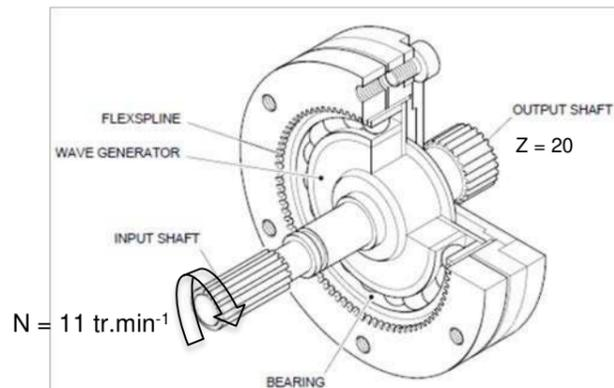

Fig 5: Harmonic drive assembly
- d'un Harmonic drive assembly (figure 5)